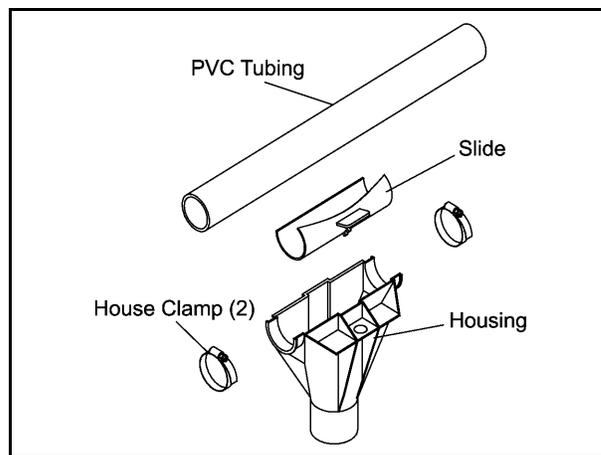

Figure 6C Drop Kit Installation
1. Snap the slide around the tube over the outlet hole (Figure 6C and Figure 6D).